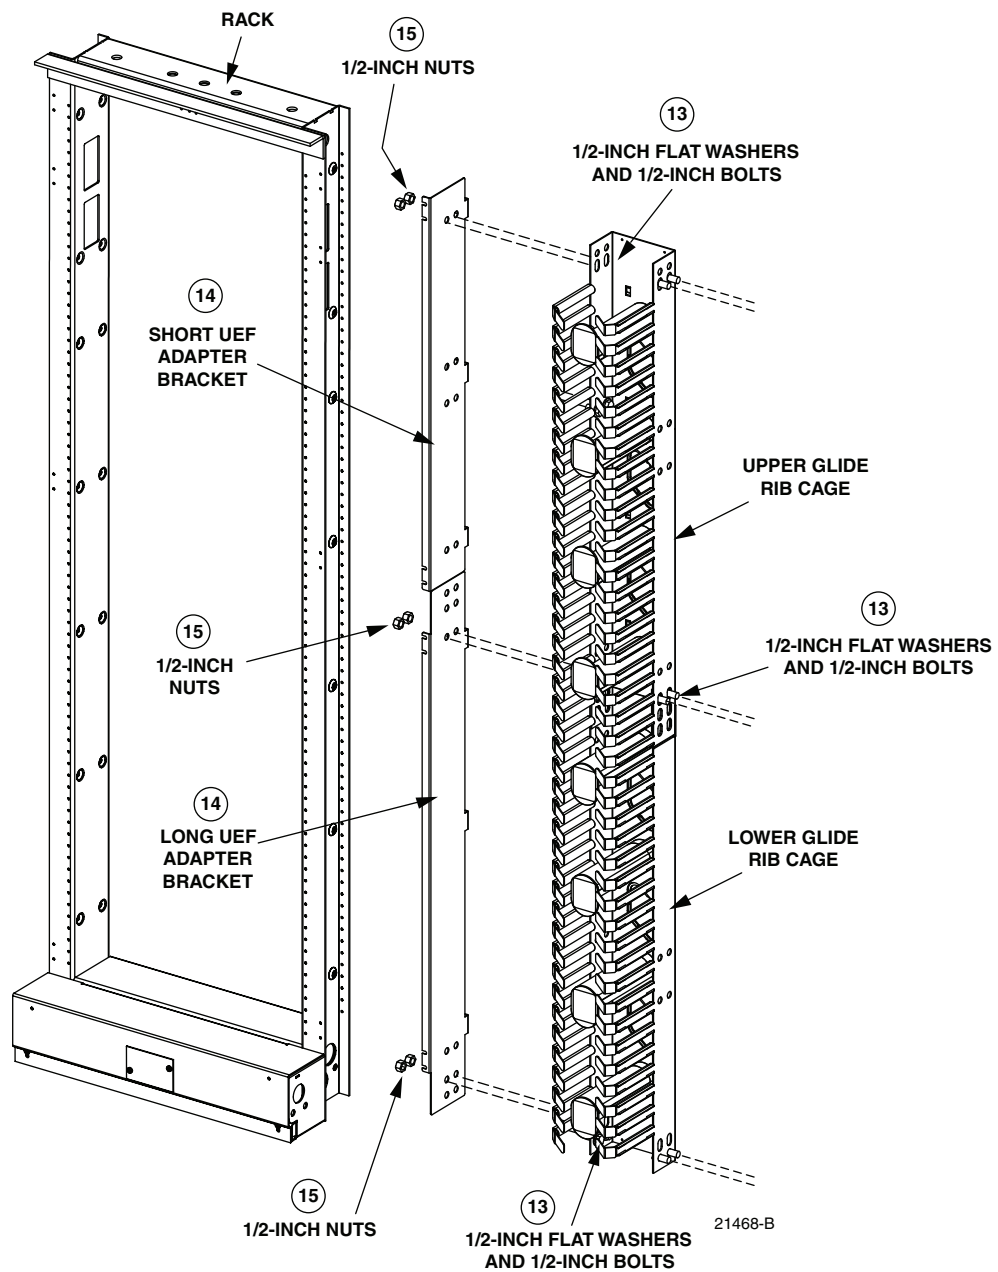

Figure 3. UEf Adapter Bracket Installation
13. Place 1/2-inch flat washers on six 1/2-inch bolts. Insert the bolts through the appropriate holes in glide assembly. See Figure 3.